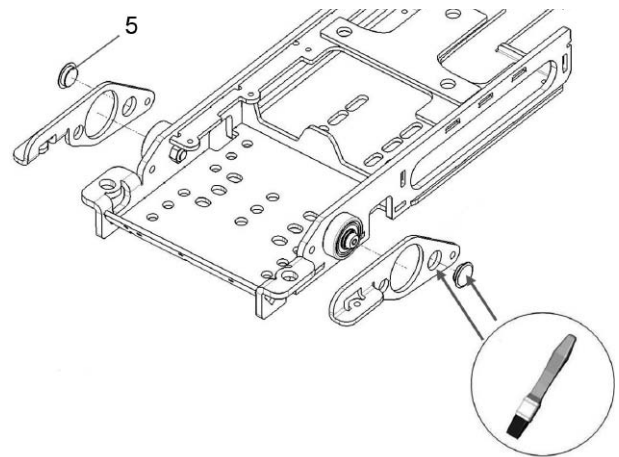

Fig. 15. Lubricate the hole in the plate with grease before mounting the slide puck.
2. Lubricate the hole in the plate with grease before mounting the slide puck (5) in the hole of the plate. This will keep them in place. See fig. 15.
3. Lubricate the flat face of the puck with grease. See fig. 15.
5. Lubricate the contact surfaces of the slide washer (2) with grease.